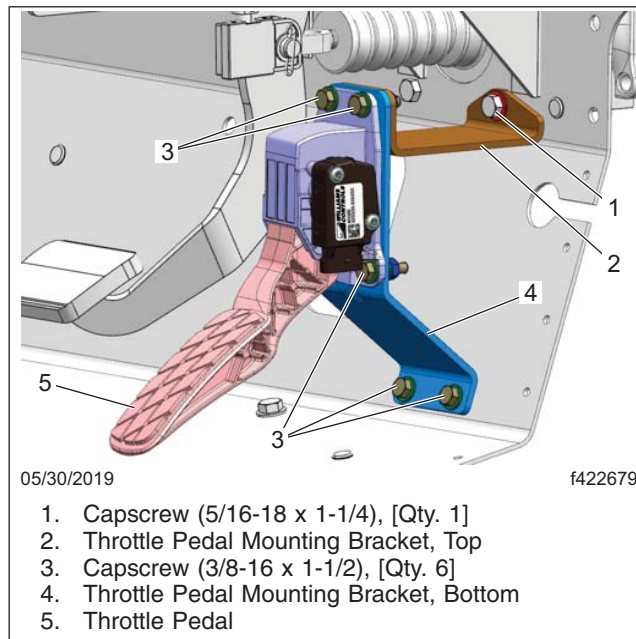

Fig. 1, Throttle Pedal Assembly
8. Using new hardware, install the throttle pedal assembly as shown in Fig. 1.